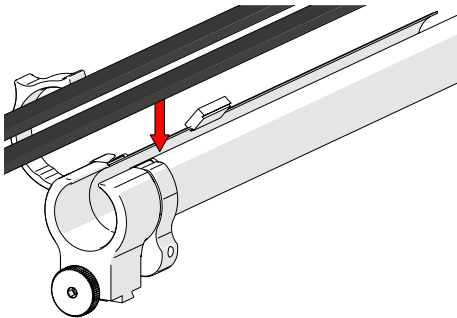

Fig. 60 - Insert cables and hoses
1. Open the zipper of the cable management. Begin at the tube's dovetail mount and place the cabling in the tube (Fig. 60).